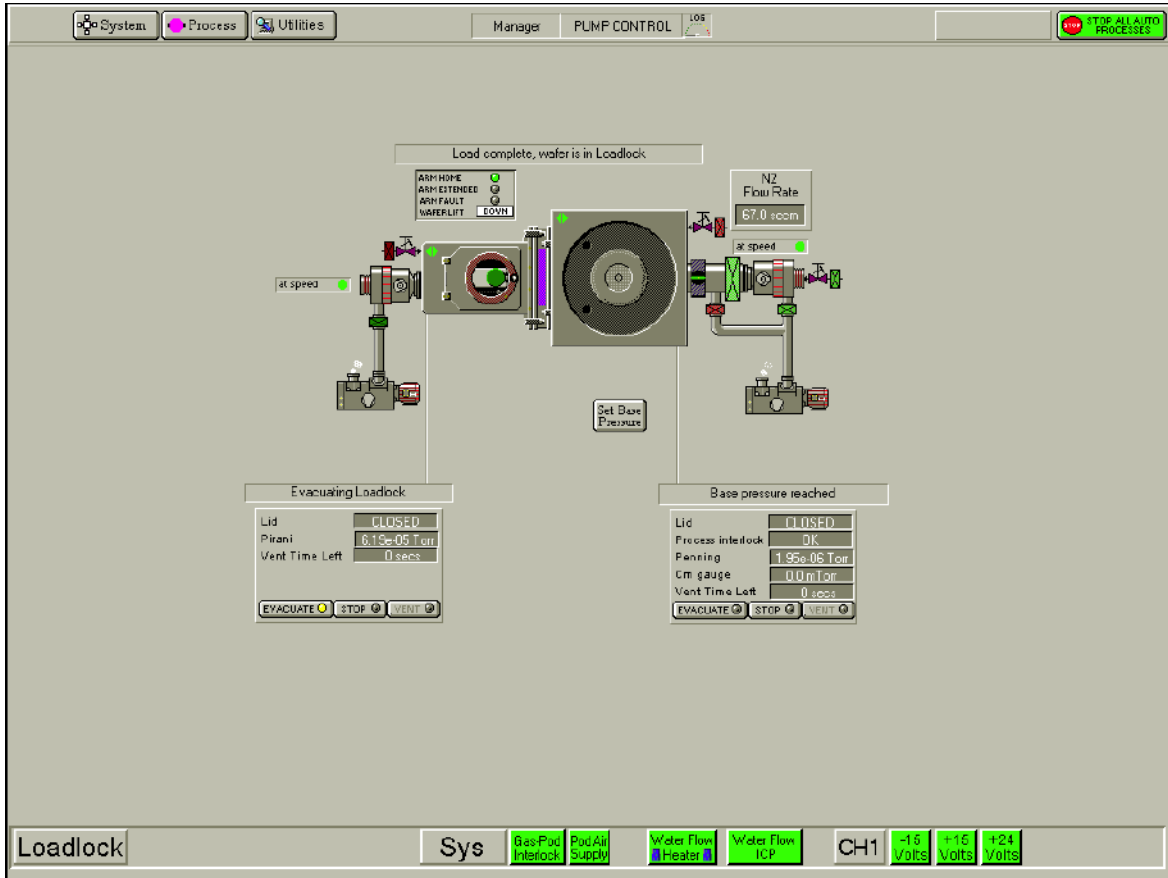

Figure 5-19 Typical PUMP CONTROL page
- 1 Choose **Pumping** from the System Menu. The PUMP CONTROL page opens (see Figure 5-19).